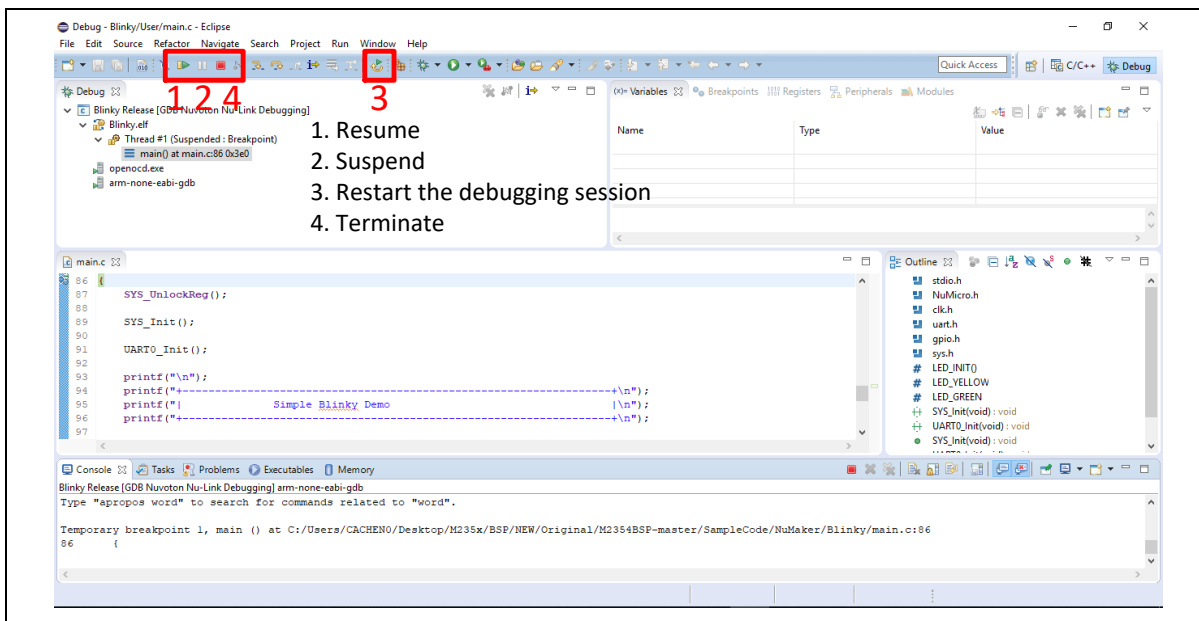
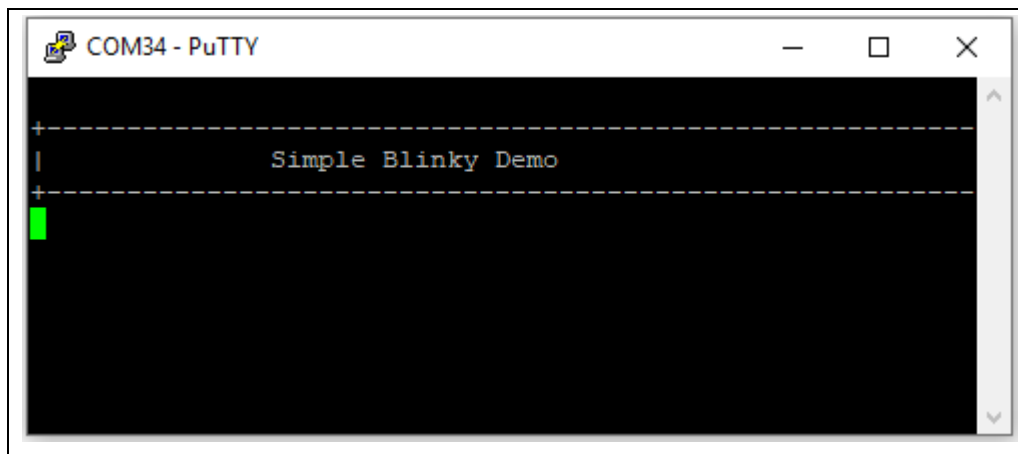

Figure 4-26 NuEclipse Debug Mode
Figure 4-27 Debug Message on Serial Port Terminal Windows
6. Figure 4-26 shows the debug mode under NuEclipse. Click “**Resume**” and the debug message will be printed out as shown in Figure 4-27. User can debug the project under debug mode by checking source code, assembly language, peripherals’ registers, and setting breakpoint, step run, value monitor, etc. For more information about how to use NuEclipse, please refer to the NuEclipse User Manual.